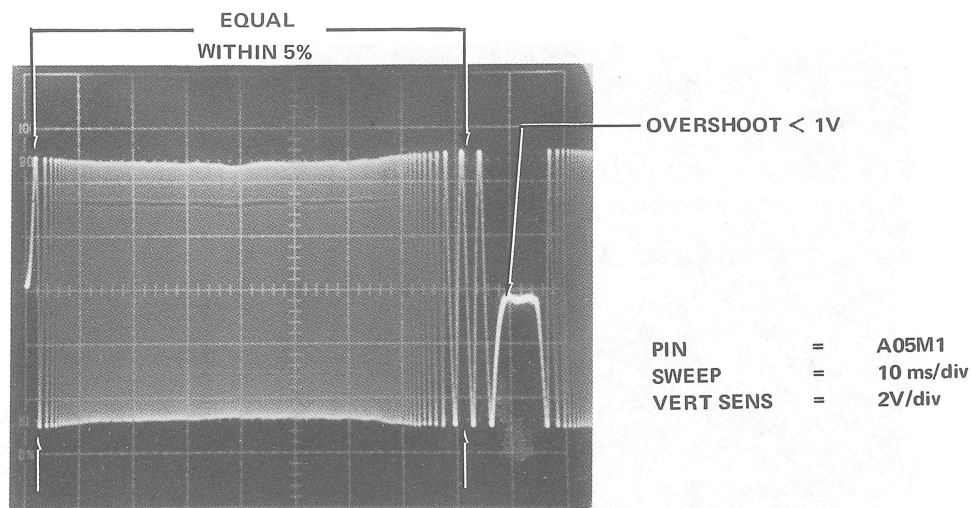

Figure 5-16 Full Stroke Position Waveform
- Set the scope vertical sensitivity to 2V/div and observe A05M1 (SIN POSITION) for a scope display as illustrated in Figure 5-16. The waveform amplitudes at the start and end of the seek must be equal within 5% and the overshoot at the end of the seek must not exceed 1V.